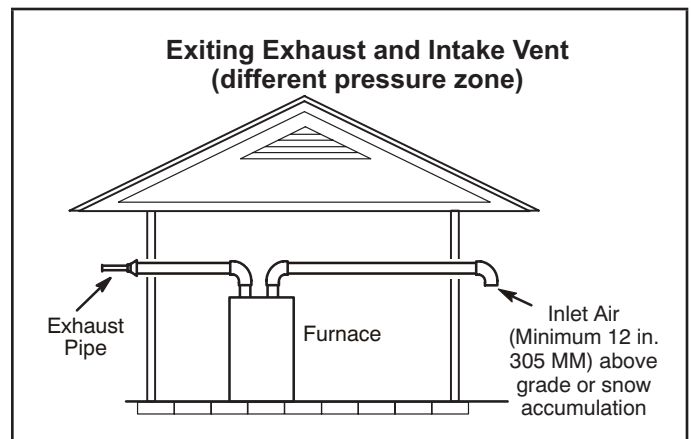
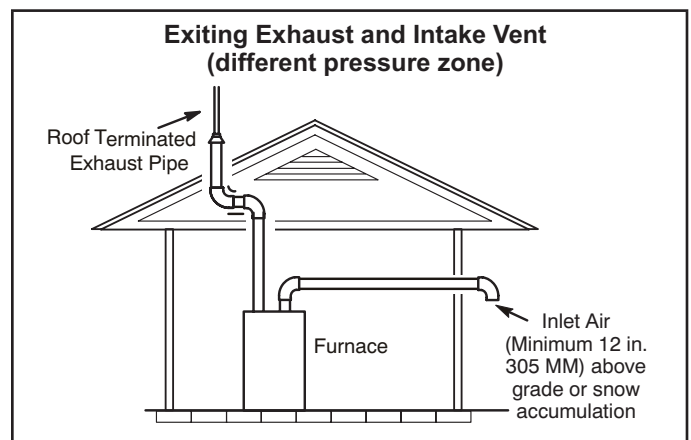

FIGURE 26
FIGURE 27
- 1 - Intake and exhaust terminations are not required to be in the same pressure zone. You may exit the intake on one side of the structure and the exhaust on another side (FIGURE 26). You may exit the exhaust out the roof and the intake out the side of the structure (FIGURE 27).